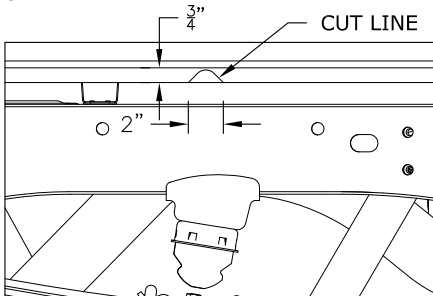

FIGURE A4: V-Shaped notch
9. **Modify bed flange.** Cut a notch in the bed flange just above the frame in the passenger side rear wheel well, as shown in figure A4. This notch is required for installing the hitch cross members.